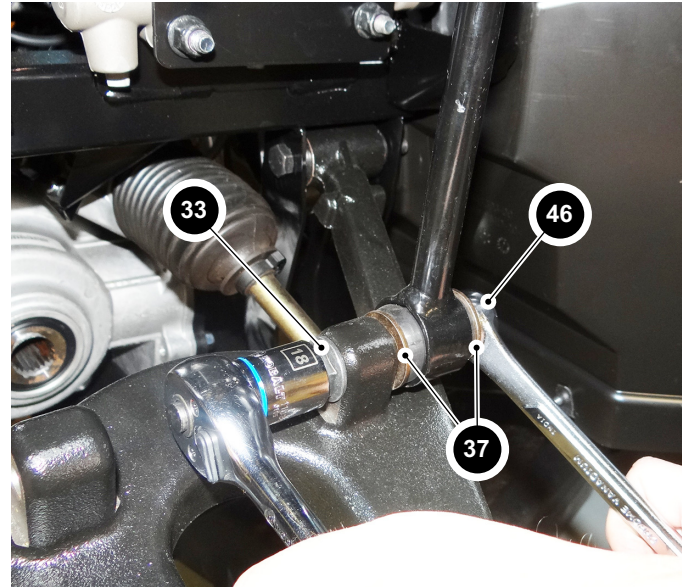

Fig. 16 Stabilizer Bar Linkage
5. Remove the nuts (28) and bolts (27) that secure each side of the lower control arm to the vehicle frame (Ref. Fig. 16).